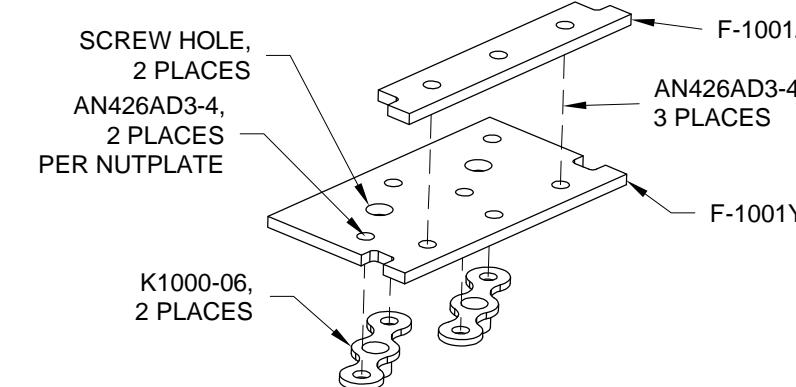

FIGURE 6: MAKING THE COWL UPPER PIN RETAINER ASSEMBLY
Step 6: Cleco the F-1001Y Cowl Upper Pin Retainer to the F-1001Z Filler Plate. Final-Drill #40 all the rivet holes in both parts. Final-Drill #27 the screw holes in the cowl upper pin retainer. See Figure 6.
Step 8: Rivet the F-1001Y Cowl Upper Pin Retainer to the F-1001Z Filler Plate per the callouts in Figure 6. Do not rivet the nutplates on yet!
Step 11: Rivet the nutplates to the Cowl Upper Pin Retainer Assembly per the callouts in Figure 6.